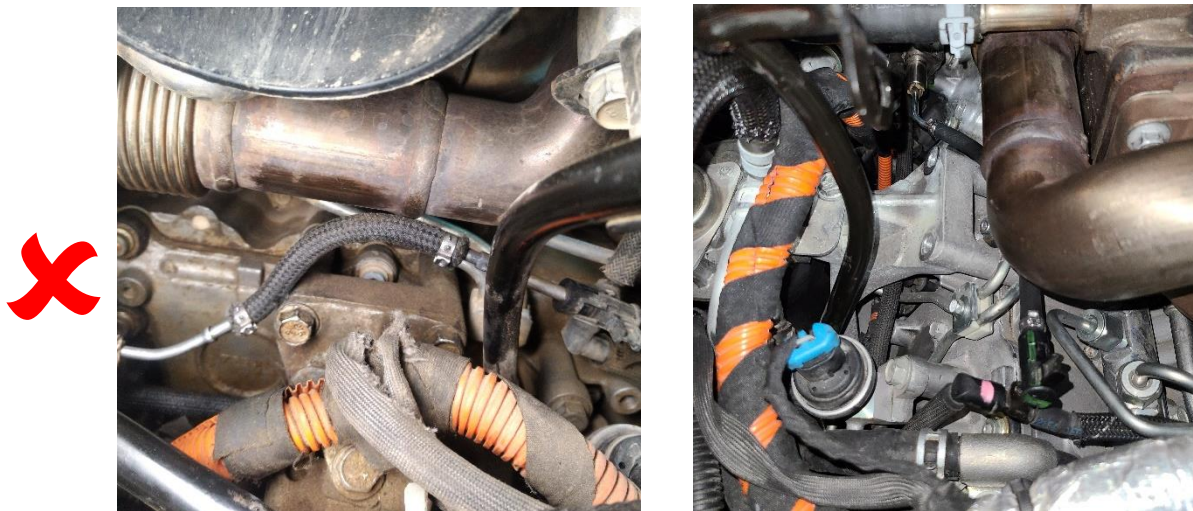

Fig. 17: INCORRECT ROUTING: DO NOT ROUTE THE DOSING INJECTOR FEED LINE UNDERNEATH OR NEAR THE EGR COOLER OR EGR MANIFOLD
5. Remove the OE dosing injector fuel line assembly. Disconnect the fuel line from the dosing injector using a 3/16" fuel line disconnect tool (Dorman 904-484 or CTA 3477). Install the new dosing injector fuel supply line included with the kit. The line will be installed between the dosing injector and the fuel return line connection. Route the line away from the EGR cooler as shown in Fig. 16 below. **Do not route the line underneath the EGR cooler as shown in Fig. 17.**